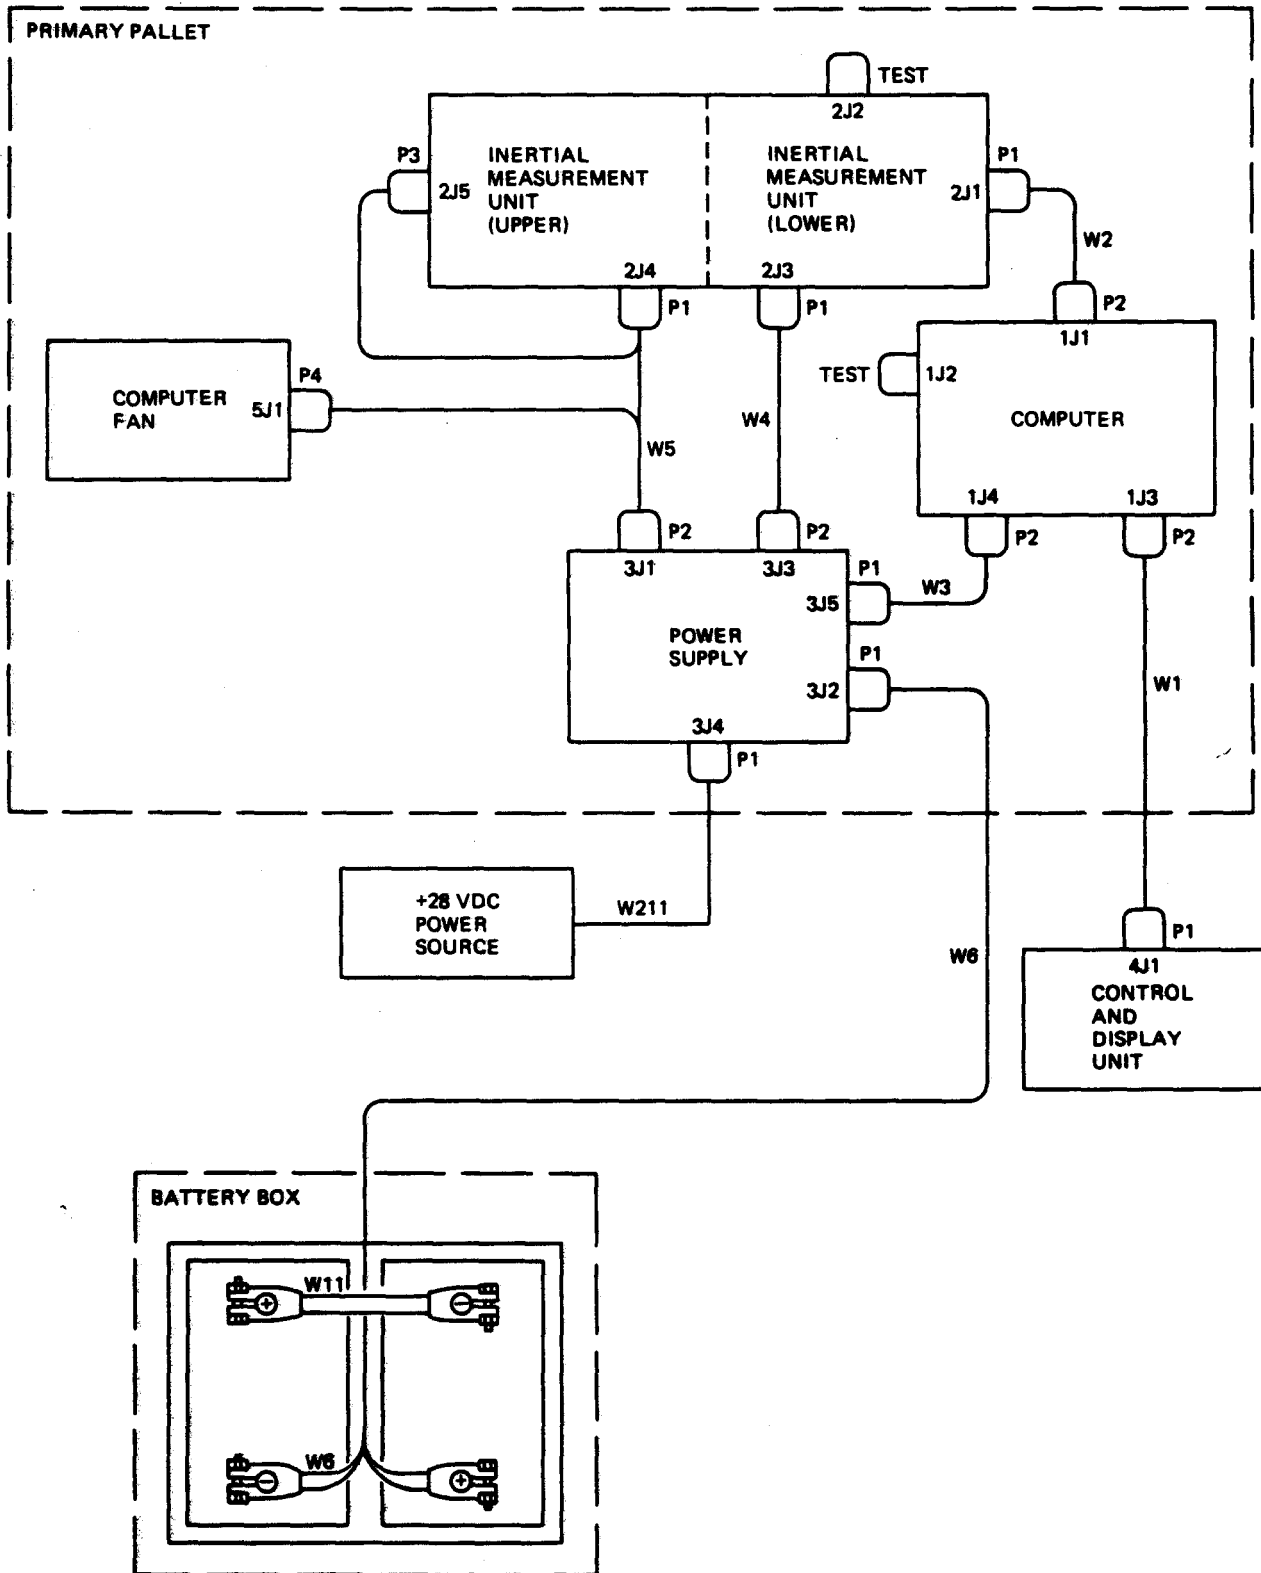

Figure 3-1. Electrical Connections for Test
c. The test sequence is summarized in table 3-1 which references more detailed descriptions of the various procedure. The system responses are given. When an abnormal condition is indicated, troubleshoot in accordance with paragraph 3-9 and perform the specified repairs. Electrical connections for testing are shown in figure 3-1.
- c. After PADS has been placed in the work area, check that the primary pallet components are interconnected as shown in figure 3-1 and the CDU is connected to the computer by cable W1.